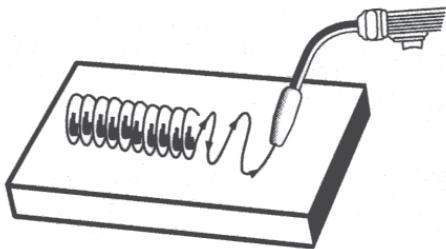

Figure 13. Weave Bead
2. The WEAVE BEAD (Figure 13) is used when you want to deposit metal over a wider space than would be possible with a stringer bead. It is made by weaving from side to side while moving with the gun. It is best to hesitate momentarily at each side before weaving back the other way.